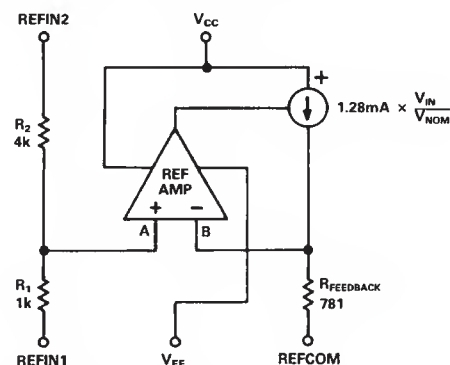
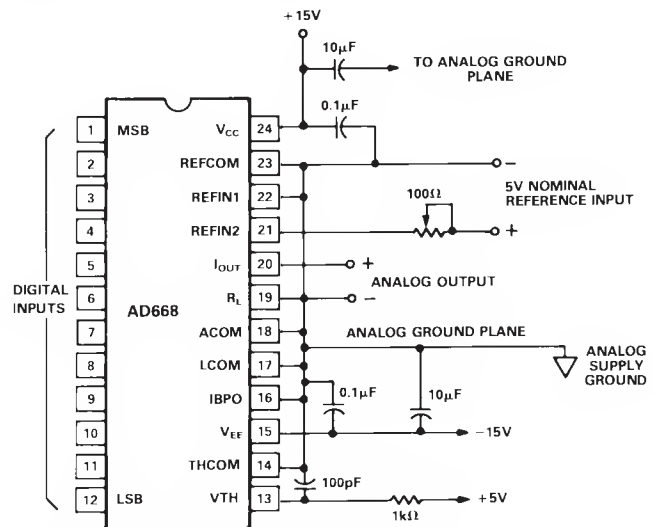

Figure 5. Equivalent Analog Input Circuitry
Figure 7. 5 V REFIN/1 V Unbuffered Unipolar Output
The reference input buffer can be viewed as a resistive divider connected to one terminal of an op amp, as shown in Figure 5. A unit DAC current source drives a resistor to produce a voltage that is fed back to the opposite terminal of the op amp. Resistor  $R_{FEEDBACK}$  is laser-trimmed to ensure that a 1 V input to node A of the op amp will produce a 10.24 mA DAC output.  $REF_{IN1}$  and  $REF_{IN2}$  may be configured in any way the user chooses to provide a nominal input full scale of 1 V at node A.  $R_1$  and  $R_2$  are sized and trimmed to provide both a 5:1 voltage divider and a parallel impedance that matches the impedance at node B, thereby reducing the amplifier offset voltage due to bias current. The resistive divider is trimmed with an external 50  $\Omega$  resistor in series with the 4k leg ( $R_2$ ). This provides a gain trim range of  $\pm 1\%$  using a 100  $\Omega$  trim potentiometer (Figure 7). If trimming is not desired, a 50  $\Omega$  resistor may be used in place of the potentiometer to produce the specified gain accuracy, or the resistor may be omitted altogether to produce a nominal gain error of  $\pm 1\%$ .
**REFCOM** – this node provides the reference ground for the reference amplifier's current feedback loop (as illustrated in Figure 5) as well as providing the negative supply voltage for most of the reference amplifier. The current consists of 1.2 mA of analog input dependent current and another 3 mA of input independent current. Analog input voltages should always be produced with respect to this voltage.
**REFIN1**– has a 1k series resistance to the reference amplifier input and a 5k series resistance to REFIN2. REFIN1 may be used in conjunction with REFIN2 to provide a 5:1 voltage divider, or the two may be driven in parallel to provide a high impedance input node (see Figure 5).
Figure 7 shows a typical topology for generating an unbuffered voltage output.  $R_L$  (Pin 19) is grounded, producing a 100  $\Omega$
The input divider has been connected to produce a 5 V full scale reference input by shorting REFIN 1 to the analog ground plane and using REFIN 2 as the reference input. With a 5 V nominal full scale, the 10% to 120% reference input range falls between 0.5 V and 6 V. The effective input resistance in this mode is 5 k $\Omega$  ( $\pm 20\%$ ). The ratio of the input divider has been intentionally skewed by 50  $\Omega$  to provide an optional external fine trim for gain adjust. A trim range of  $\pm 1\%$  is provided by the 100  $\Omega$  trimming potentiometer shown in Figure 7. If trimming is not desired, a 50  $\Omega$  resistor may be used in place of the potentiometer to produce the specified gain accuracy, or, if a  $\pm 1\%$  nominal gain error is tolerable, the resistor may be omitted altogether.